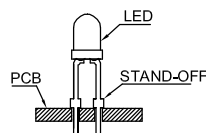

Fig. 3
- Use stand-offs (Fig.3) or spacers (Fig.4) to securely position the LED above the PCB.